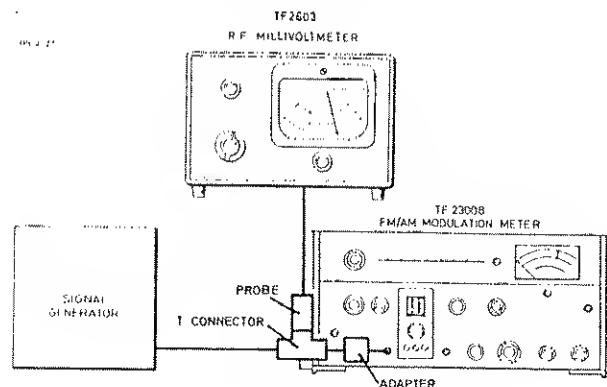

Fig. 5.2 Checking input sensitivity
(1) Insert the T connector in the RF IN socket and connect the appropriate sweep generator and the r.f. millivoltmeter to it (see Fig. 5.2). Connect the oscilloscope to the IF OUT socket. Also connect the X drive from the generator to the horizontal input of the oscilloscope. Set the RF LEVEL control fully clockwise.
(2) Set the sweep generator to sweep the range (plus approximately 2 MHz) and tune the coarse TUNE FREQUENCY control over the range. Note the frequency at which the display height is minimum and reset the coarse TUNE FREQUENCY control to this frequency.
(3) Set the sweep generator to manual sweep and to the same frequency to give a peak reading on the meter.
(4) Set the FUNCTION switch to SET FREQ (AM or FM) and slightly readjust the sweep generator so that the meter reading is at the SET line.